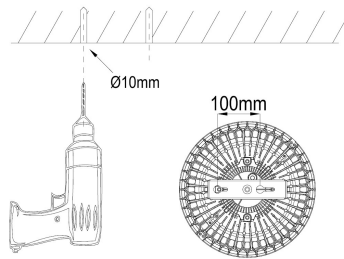

Figure 3
1. Use a chalk or sharp tool to mark the top of the ceiling or wall, then drill holes on the marks by electric drill (Figure 3).